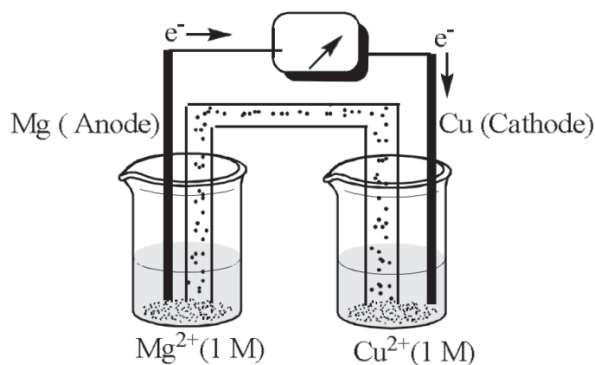

Figure 2.5 Mg-Cu Galvanic cell
2. Write the cell notation for question (1).
4. In Figure 2.5 magnesium is oxidized and silver ions are reduced.